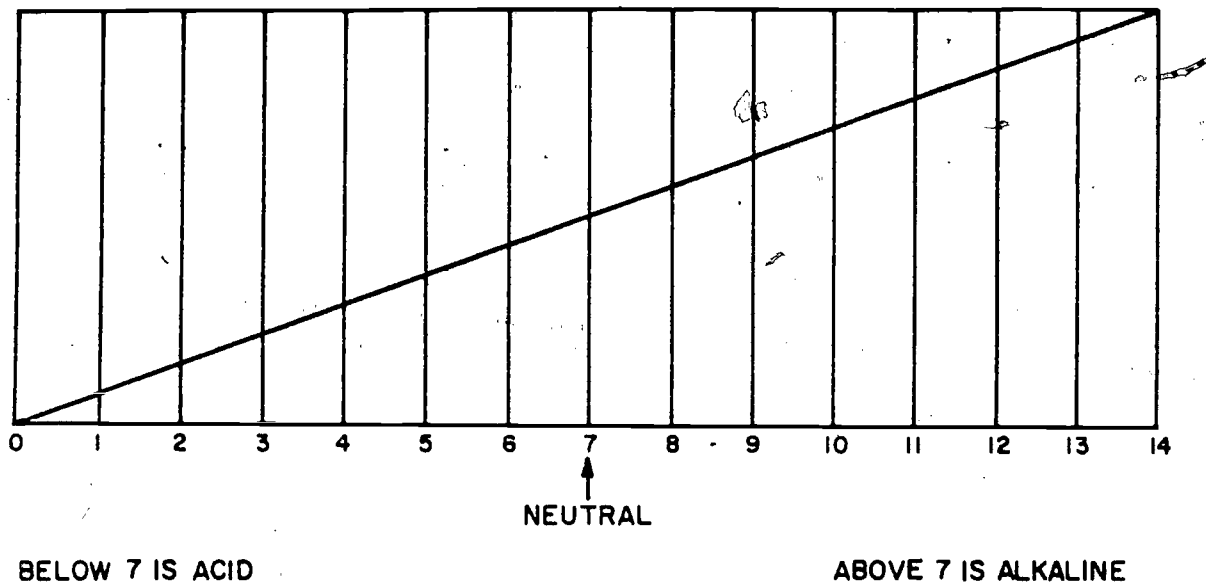

Figure 26. The pH scale.
1. The standard high-pressure treatment of water consists of introducing the proper amounts of caustic soda, sodium sulfite, phosphate, and tannin into the boiler. Caustic soda provides alkalinity in the form of free hydroxide to neutralize the acid materials in the water. Alkalinity in the water is necessary to prevent corrosion. The relationships between acidity and alkalinity are determined by pH readings, such as those given in the pH scale shown in figure 26. You will see on the scale that when the pH reading is below 7, the water is acid; when the scale reading is above 7, the water is alkaline. You will also note that when the reading is exactly 7, the water is neutral—neither alkaline nor acid.